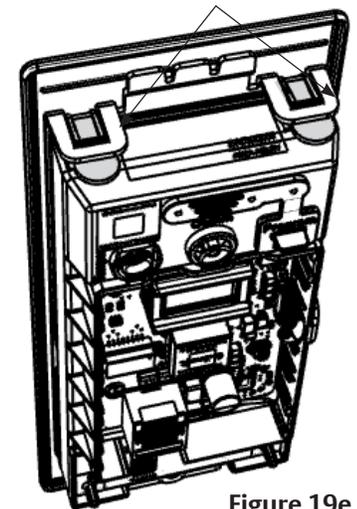

Figure 19e
2. Ensure proper alignment of board-to-board connectors (Figure 19e) while pivoting controller toward door until two tabs on top click securely into place on mounting plate (Figure 19e).